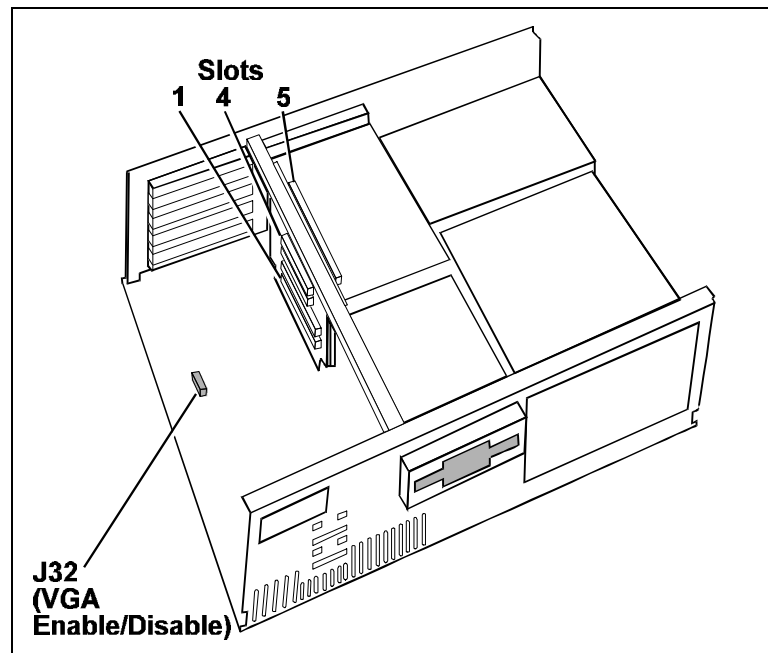

Figure 2-12. IBM ValuePoint 6482 Slot Numbers and VGA Jumper
- Disable on-board VGA by moving the jumper on system board J32 (Figure 2-12) to the disable position.